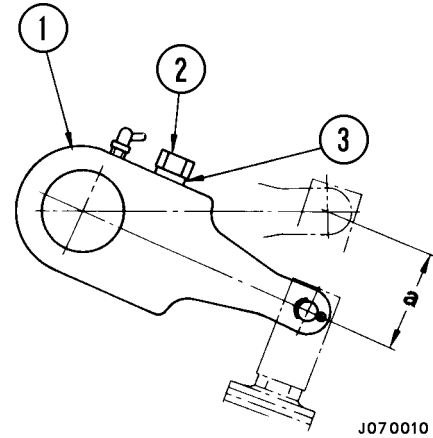
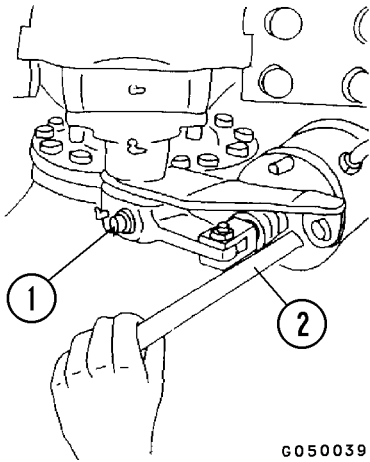

FIGURE 4-18. ARM ADJUSTMENT
FIGURE 4-20. ADJUSTING CLEARANCE
2. Push in capscrew retainer (3, Figure 4-18) of slack adjuster (1) until the capscrew can turn, then turn capscrew (3) clockwise.
4. After adjusting the pad clearance, actuating stroke "a" (Figure 4-18) of the rod should be measured and adjusted to approximately 50 mm (1.97 in.). (Figure 4-20)
- A. See Figure 4-20